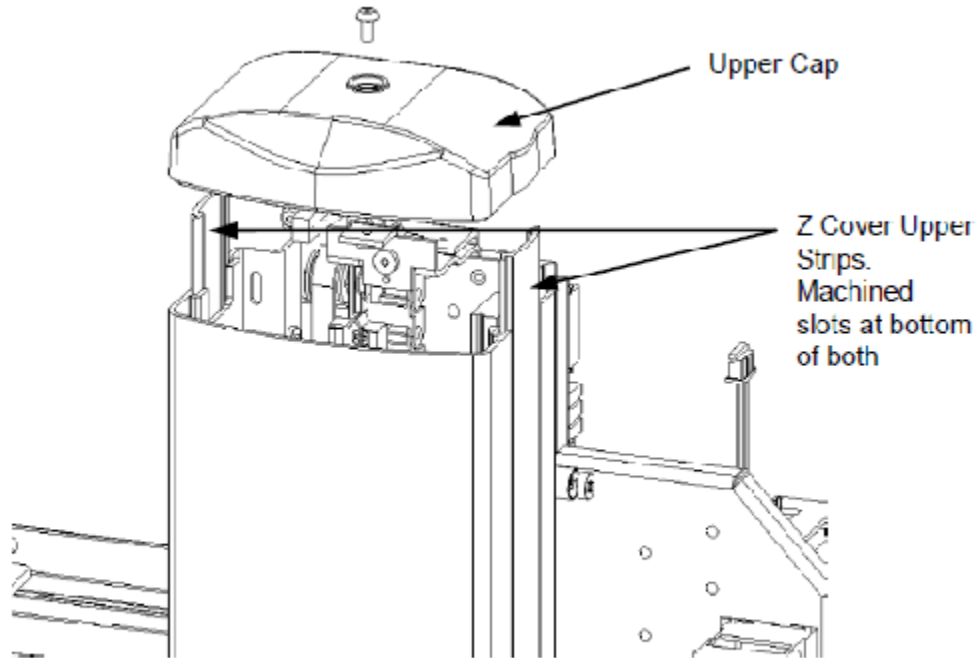

Figure Z-2: Removing Cap and Cover Screws
2. Remove the two Transport Arm Z Cover Upper Strips from the Upper Z Extrusion and remove the Transport Arm Upper Cap from the top of the assembly (Figure Z-2). When replacing, secure the screw with Loctite 425